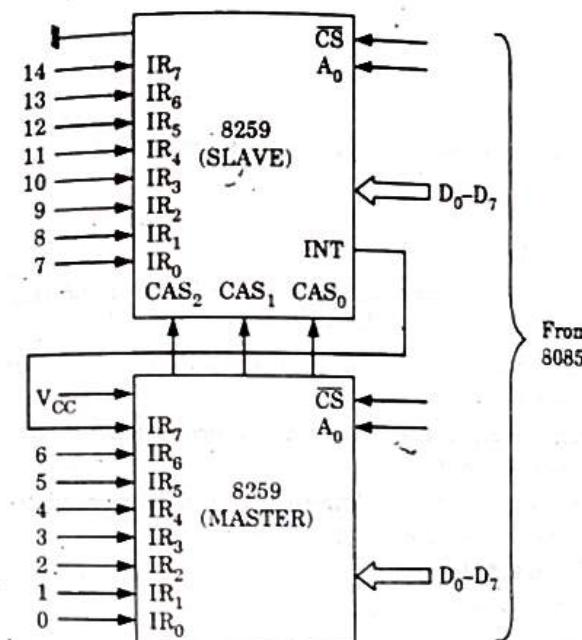

Fig. 3.21.1. Using the 8259 PICs to interface 15 I/O device to 8085 each having a unique ISS address.
The block diagram of 8259A is shown in Fig. 3.21.1. The functional explanation of each block is given as follows :
**Fig. 3.21.1. Functional block diagram of 8259A.****Que 3.22. Explain 8259 (programmable interrupt controller) in detail. Explain the different priority modes on 8259 (PIC).**